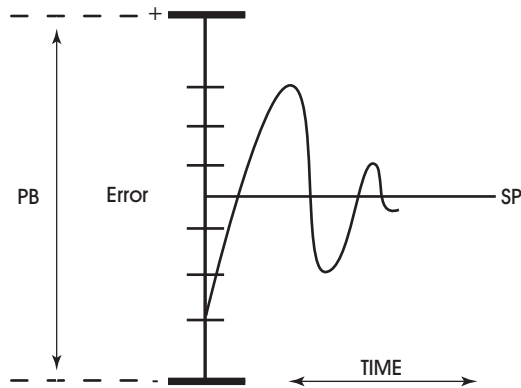

Figure 7-6: Proportional + Integral (PI) Control
The **(RP) Reset Period** attribute specifies the reset period (in seconds) over which the error history is accumulated. If **(RP) Reset Period** = 10 seconds with a constant error of 2.0, then the error history would increase by 0.2 every second. In five seconds, the error history would be 1.0. At the end of ten seconds, the error history would be 2.0. Setting **(RP) Reset Period** to 0 disables integral action making the loop proportional only. The longer **(RP) Reset Period** is, the less effect it has on the control response. Figure 7-6 shows the response of a typical control loop when integral action is used in addition to proportional action (PI control). A value of 0 disables the reset period.
At the start-up of the loop or following a change in setpoint (see Figure 7-6), the error is fairly large. Proportional action causes the loop output to accelerate toward the setpoint. However by the time the loop response reaches the setpoint value, it has gained inertia from the preceding proportional action. This causes the loop to overshoot the setpoint. As the loop exceeds the setpoint moving toward its first peak,
As the error falls and then drops below the setpoint, the error sum will be reduced because now the error is in the opposite direction. The cycle continues in diminishing peaks until it finally converges at the setpoint as shown in Figure 7-6.